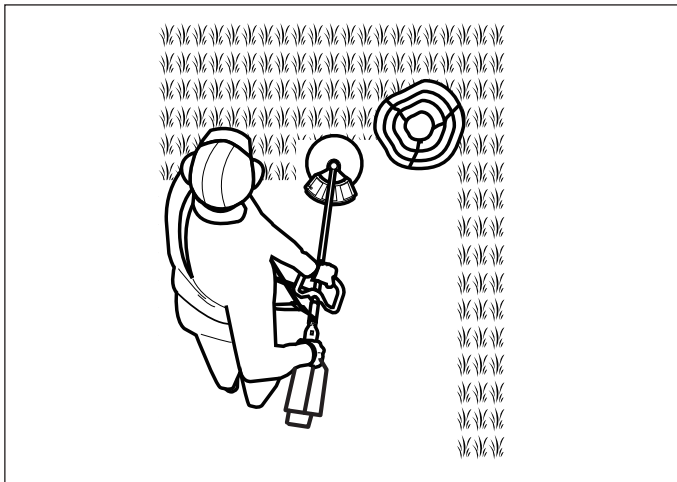

Fig. 14g
12). Pay special attention when performing the work close to trees and bushes. The cutting heads could damage sensitive bark, and damage fence posts. (See Fig. 14g)